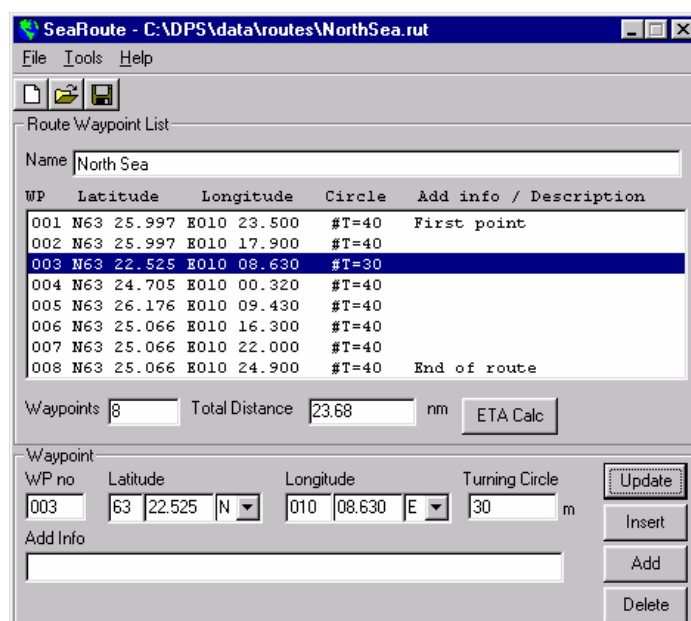

Figure 51 SeaRoute main window
1. The operator can define a circle around each waypoint, referred to as the turning (or arrival) circle. The default radius is 40 metres. The system will automatically change to the next waypoint of the route as soon as the vessel crosses the circle. DTG for the next leg is also calculated from this point. In addition, a specific turning circle radius can be entered for selected waypoint in the **SeaRoute** main window, see Figure 51.
By selecting **Edit Route** in the **Navigation** menu, the **SeaRoute** dialogue box, see Figure 51, will appear and editing of navigation routes is available.